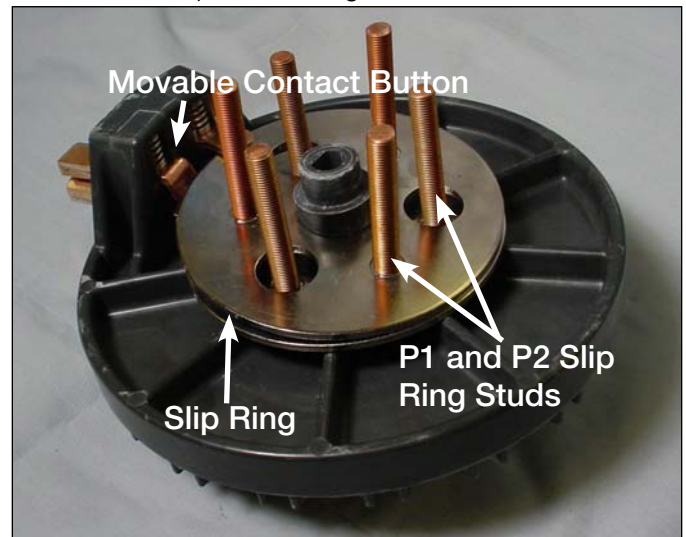

Figure 27.
- Align the studs of the slip rings with the mounting holes in the contact panel. The studs on the slip ring that is between the left hand lower button contact will go into the holes that have the high shoulder spacer as part of the contact panel. See Figures 27 and 28.